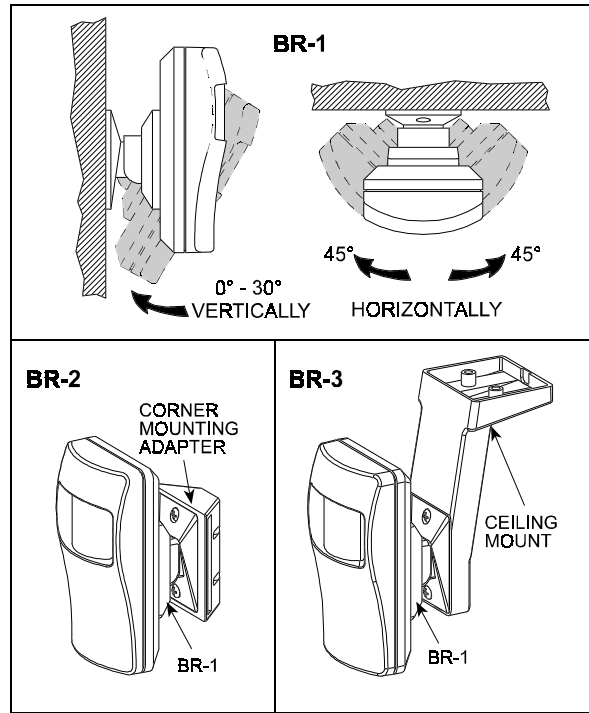

Figure 4. Optional Swivel Brackets
**Mounting Brackets** (See Figure 4)
The **CORAL PLUS** can be installed directly on a wall (surface mounted) or in a corner. For optional swivel brackets, see Para. 3.3 and Figure 4. Always mount the unit on a firm and stable surface.
The BR-1 is a swivel, surface-mounted bracket which accommodates the **CORAL PLUS** for greater flexibility when setting the desired detection range. The BR-1 is adjustable 30° downward and 45° left, 45° right (see Figure 4).